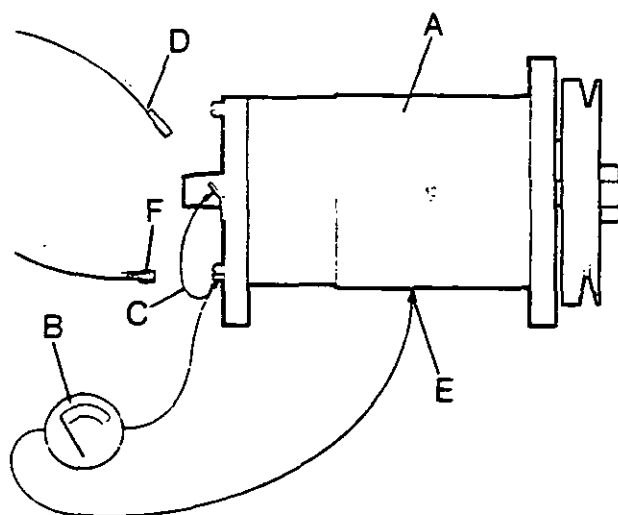

Figure H42
2. Disconnect both the wires from the dynamo terminals and connect a jumper wire from one terminal to the other as shown Figure H42.